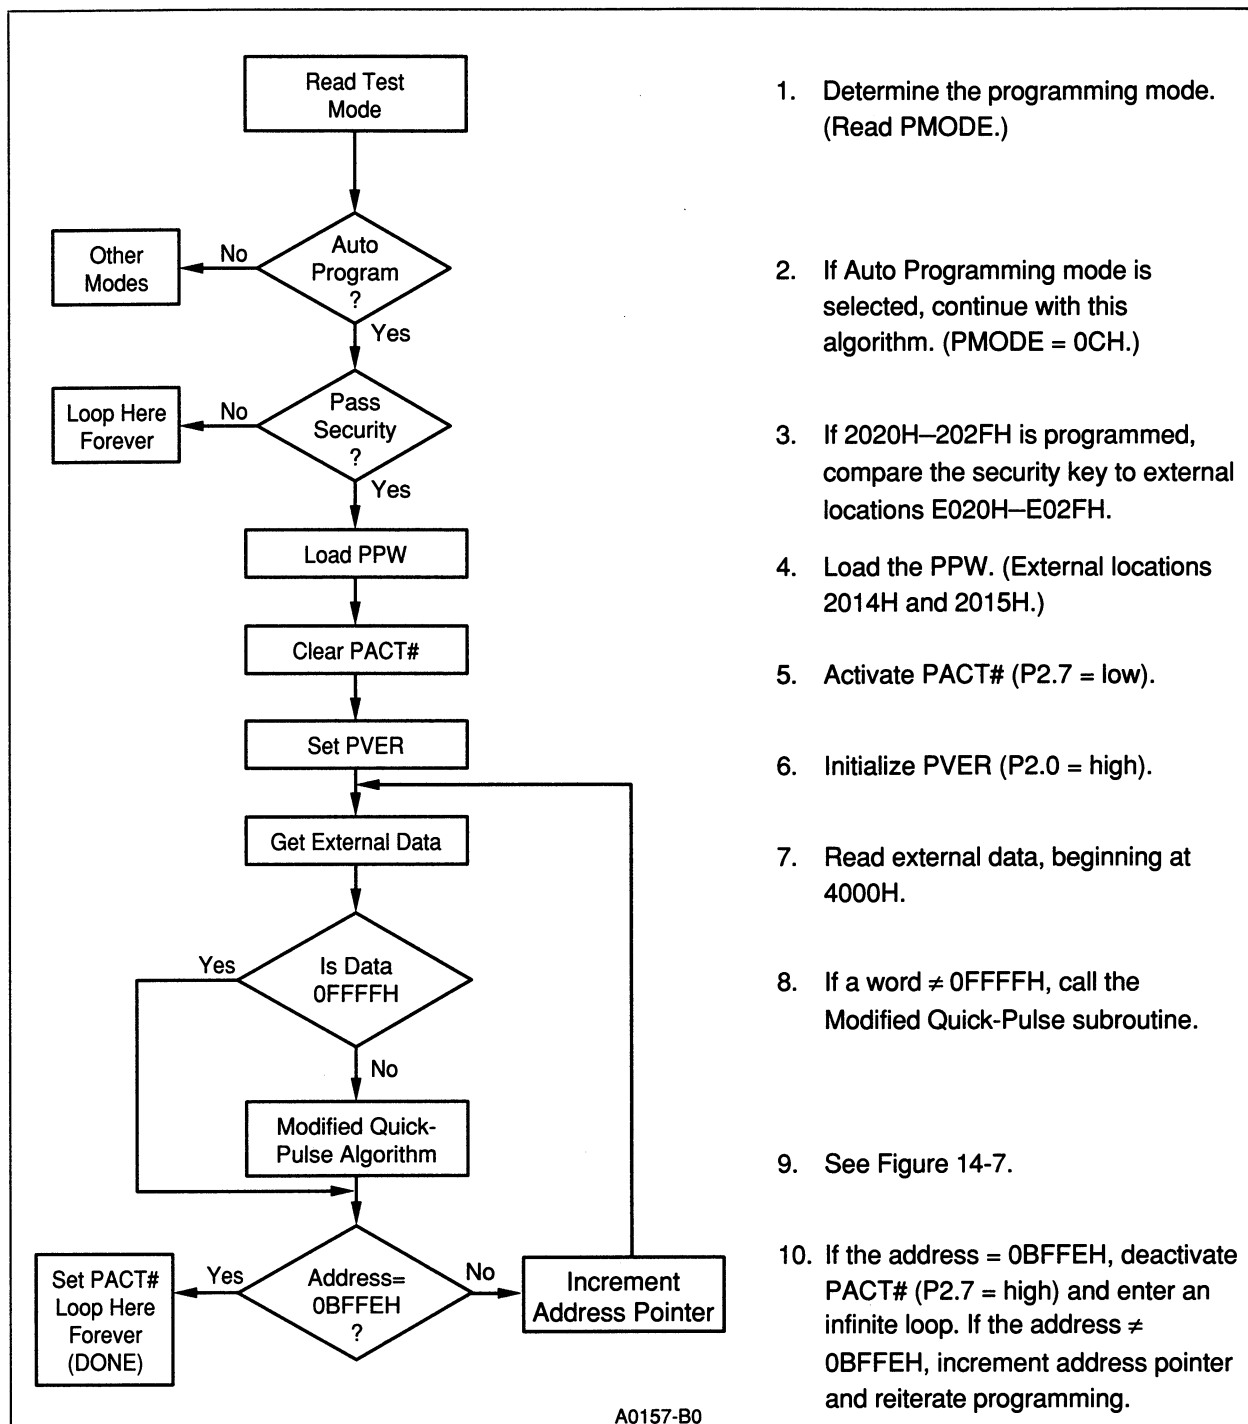

Figure 14-9. Auto Programming Mode Algorithm
- d. Initiate the Auto Programming algorithm, Figure 14-9. The algorithm skips the CCB and programs the rest of the OTPROM array.
- d. Initiate the Auto Programming algorithm, Figure 14-9. This time the algorithm programs the CCB and skips the rest of the OTPROM array.